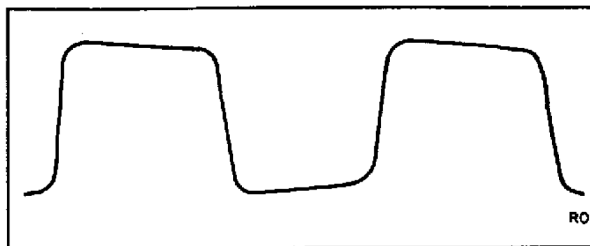

Figure 4-4. Modulator Waveform
- i. Waveform should be similar to that shown in figure 4-4, and should have a peak-to-peak amplitude approximately equal to the deflection found in step g. Signal frequency should be 5/6 line frequency.